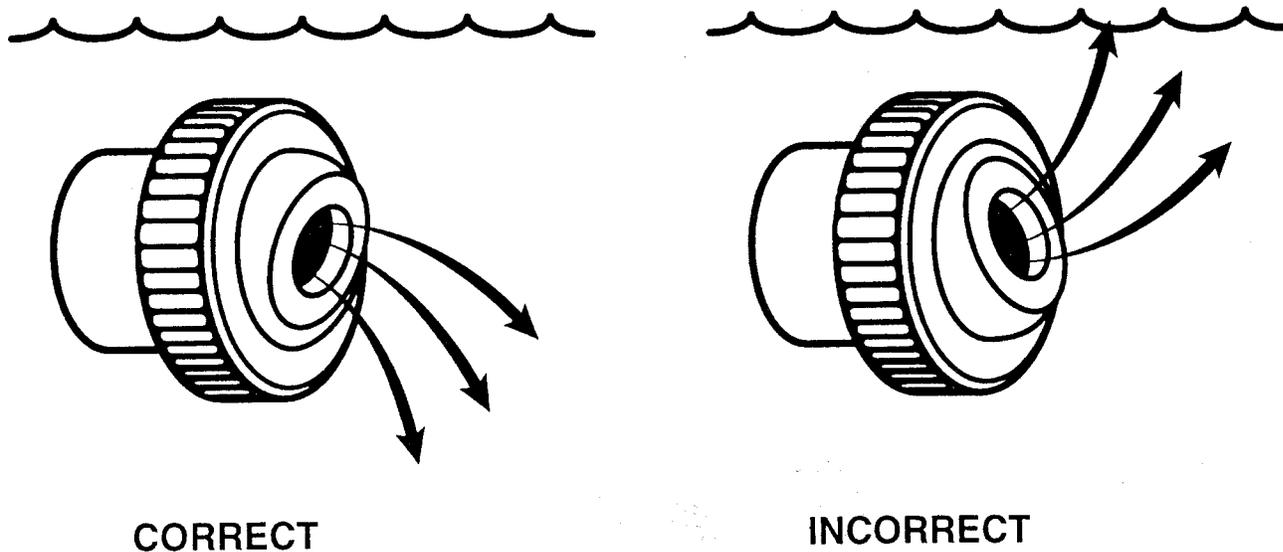

FIGURE 4
- The **POOLGUARD ALARM** should not be placed too close to a pool water return line. If your return line has an eyeball fitting, this must be pointing down, see FIGURE 4.
It is very important in above ground pools to adjust your eyeball fitting on your return line so it does not interfere with your pool alarm. It is not necessary to point your eyeball up for your pool to circulate properly. Point the eyeball fitting down towards the bottom of the pool to enable your alarm to work properly. If the water is swirling on top of the pool this makes the pool too turbulent for your alarm to work properly. Point the eyeball down and your pool will still circulate properly and allow your alarm to function properly. **If you point the eyeball fitting up your alarm may not function properly.** (See Figure 4)